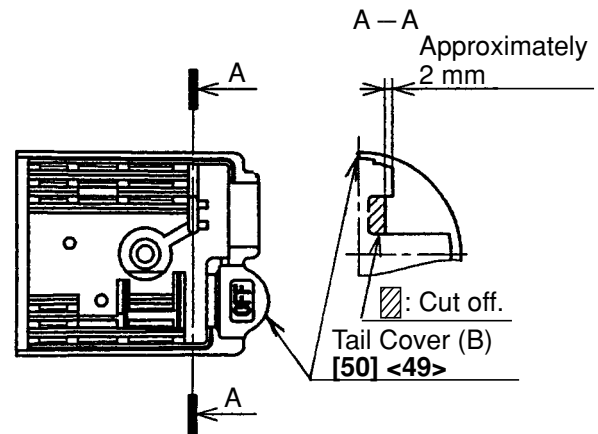

Fig. 6
- 4) Cut off the rib for holding the cord of Tail Cover (B) [50] <49> with nippers as shown in Fig. 6.